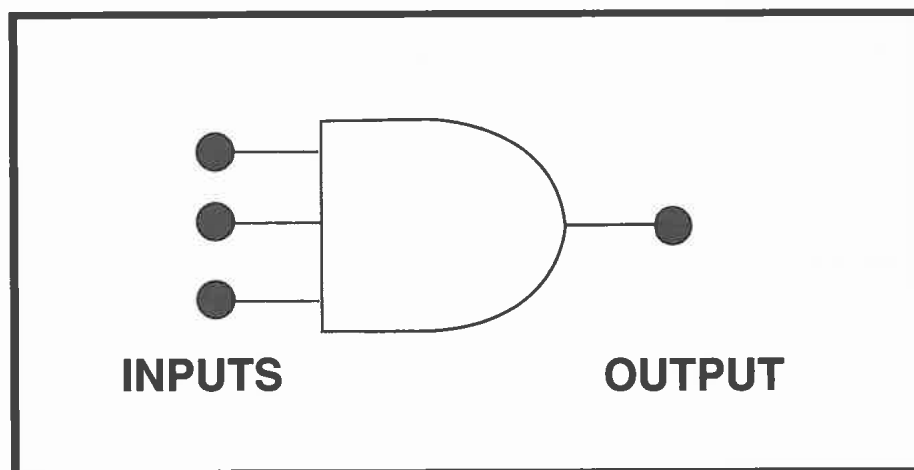

FIGURE 25.—Logic Gate.
(Refer to figure 25) In a functional and operating circuit, the depicted logic gate's output will be 0
Figure 25 represents a logic AND gate. In an AND gate, every input must be 1 (on) in order for the output to be 1 (on). For example, input number 1, AND input number 2, AND input number 3 must be 1 (on) for the output to be 1 (on). However, if one or more inputs are 0 (off) the output will be 0 (off) (answer C). Answer (A) is incorrect because having all inputs be 0 is not the only condition that results in a 0 output.